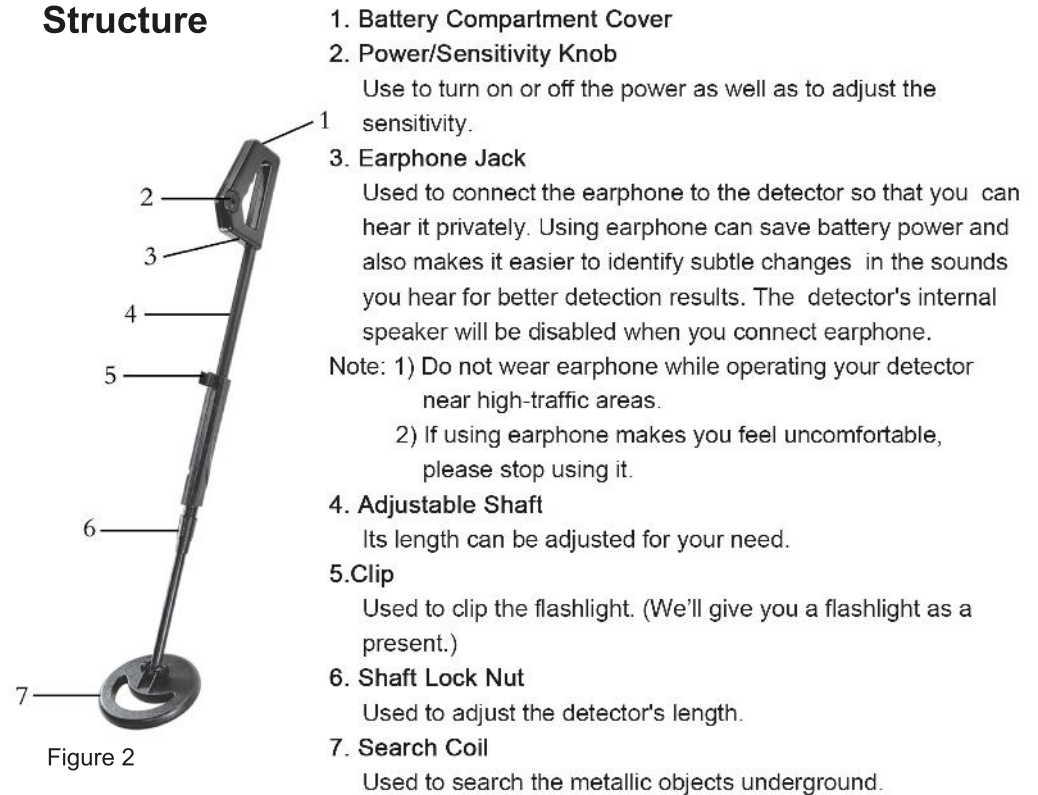

Figure 2
3. Aim the location points on the front cover and back cover at the location hole on both sides of upper shaft until the two covers match perfectly. The Clip and the Handle should be in the same direction. (Refer to figure 2)